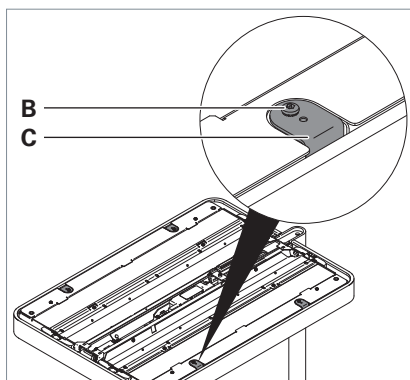

Fig. 18: Removing the locking elements.
- Unscrew all four locking screws **B** from the locking straps **C** using a special tool, see Fig. 18.